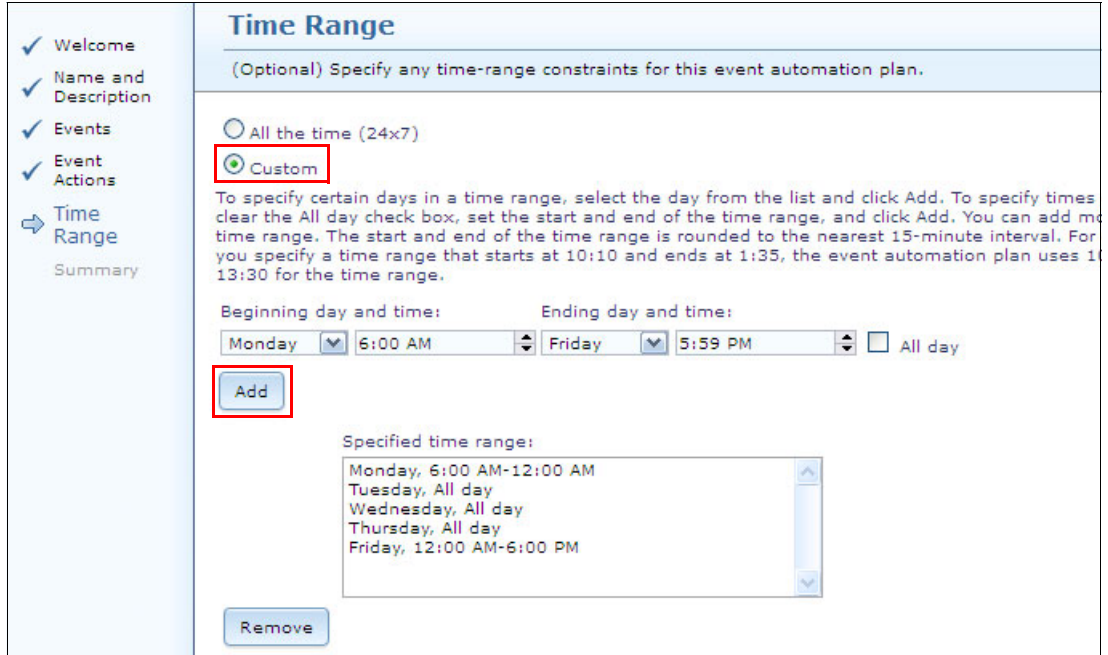

Figure 7-52 Create Event Automation Plan Wizard Time Range Custom window
12. In the example, the Windows server runs heavy CPU load operations during the weekend, so high CPU utilization is expected and considered normal. Therefore, you want to be notified for high CPU utilization only from Monday until Friday. In the Time Range window, select **Custom** and specify the time range constraints for the automation plan as shown in Figure 7-52. Click **Add** and then click **Next**.